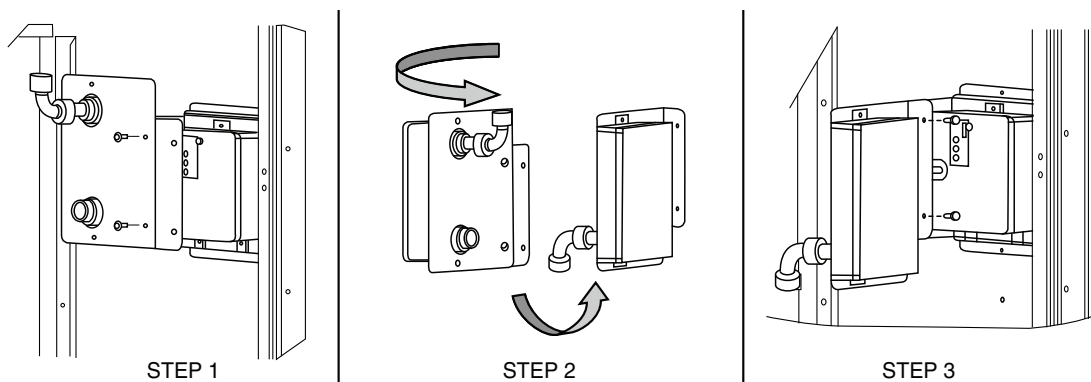

Fig. 55 — Completing Installation of Return-Air Smoke Sensor
1. Unscrew the two screws holding the return-air smoke detector assembly. See Fig. 55, Step 1. Save the screws.
2. Turn the assembly 90 degrees and then rotate end to end. Make sure that the elbow fitting is pointing down. See Fig. 55, Step 2.
3. Screw the sensor and detector plate into its operating position using screws from Step 1. See Fig. 55, Step 3.